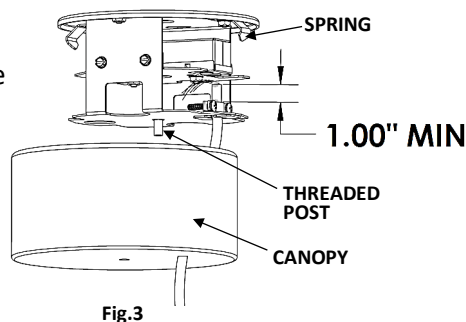

Fig.3
4. ASSEMBLE CORD TO MOUNTING BRACKET. Fig.3